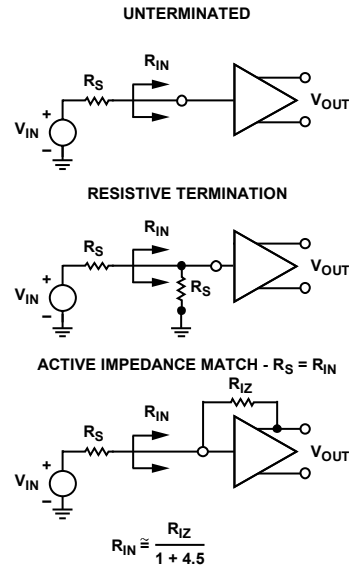
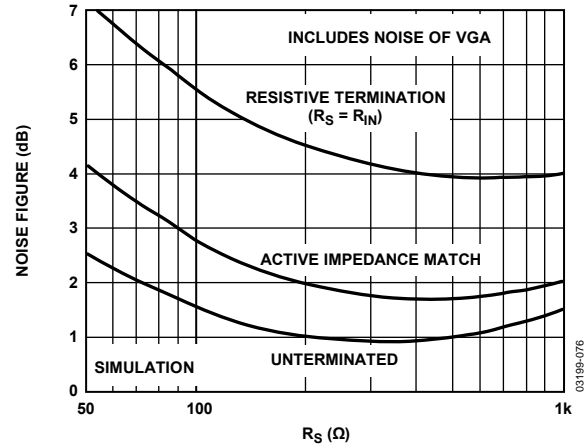
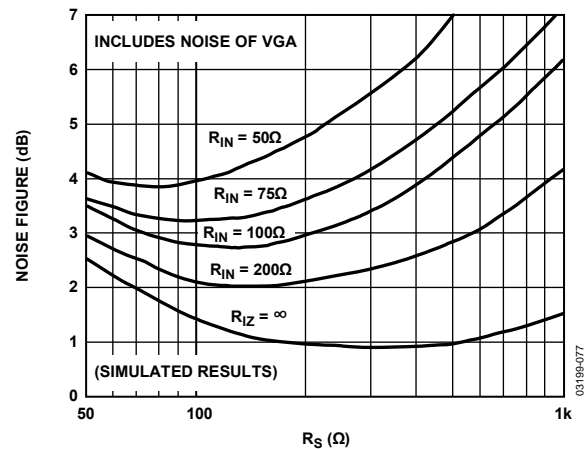

Figure 75. Input Configurations
Figure 76. Noise Figure vs. R_S for Resistive, Active Match, and Unterminated Inputs
Figure 77. Noise Figure vs. R_S for Various Fixed Values of R_{IN} , Actively Matched
The input-referred voltage noise sets an important limit on system performance. The short-circuit input voltage noise of the LNA is $0.74\text{ nV}/\sqrt{\text{Hz}}$ or $0.82\text{ nV}/\sqrt{\text{Hz}}$ (at maximum gain), including the VGA noise. The open-circuit current noise is $2.5\text{ pA}/\sqrt{\text{Hz}}$. These measurements, taken without a feedback resistor, provide the basis for calculating the input noise and noise figure performance of the configurations in Figure 75. Figure 76 and Figure 77 show simulations extracted from these results and the 4.1 dB noise figure (NF) measurement with the input actively matched to a $50\text{ }\Omega$ source. Unterminated ($R_{IZ} = \infty$) operation exhibits the lowest equivalent input noise and noise figure. Figure 76 shows the noise figure vs. source resistance, rising at low R_S , where the LNA voltage noise is large compared to the source noise, and again at high R_S due to current noise. The VGA input-referred voltage noise of $2.7\text{ nV}/\sqrt{\text{Hz}}$ is included in all of the curves.
The primary purpose of input impedance matching is to improve the system transient response. With resistive termination, the input noise increases due to the thermal noise of the matching resistor and the increased contribution of the LNA input voltage noise generator. With active impedance matching, however, the contributions of both are smaller than they would be for resistive termination by a factor of $1/(1 + \text{LNA Gain})$. Figure 76 shows their relative NF performance. In this graph, the input impedance is swept with R_S to preserve the match at each point. The noise figures for a source impedance of $50\ \Omega$ are 7.1 dB, 4.1 dB, and 2.5 dB, respectively, for the resistive, active, and unterminated configurations. The noise figures for $200\ \Omega$ are 4.6 dB, 2.0 dB, and 1.0 dB, respectively.
Figure 77 is a plot of NF vs. R_S for various values of R_{IN} , which is helpful for design purposes. The plateau in the NF for actively matched inputs mitigates source impedance variations. For comparison purposes, a preamp with a gain of 19 dB and noise spectral density of $1.0\ \text{nV}/\sqrt{\text{Hz}}$, combined with a VGA with $3.75\ \text{nV}/\sqrt{\text{Hz}}$, yields a noise figure degradation of approximately 1.5 dB (for most input impedances), significantly worse than the AD8331/AD8332/AD8334 performance.